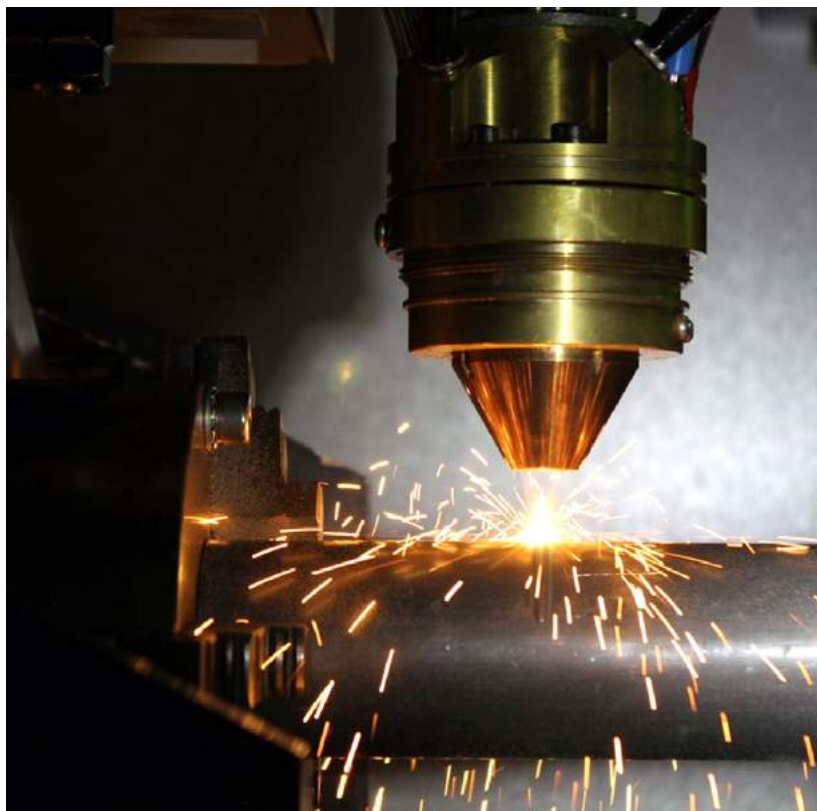

Fig. 4 A FormAlloy DED build head in operation (Courtesy FormAlloy)
- The FormAlloy AX metal deposition head (Fig. 4)